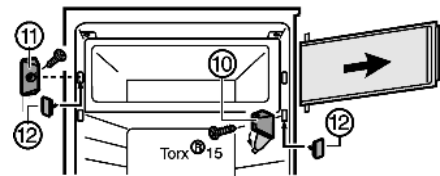

Fig. 6*
- ▶ Fold away the cover of the turn hinge Fig. 6 (10).*
- ▶ Unscrew turn hinge Fig. 6 (10) together with compartment door.*
- ▶ Unscrew closing element Fig. 6 (11).*
- ▶ Close the vacated holes using the accompanying cover Fig. 6 (12).*